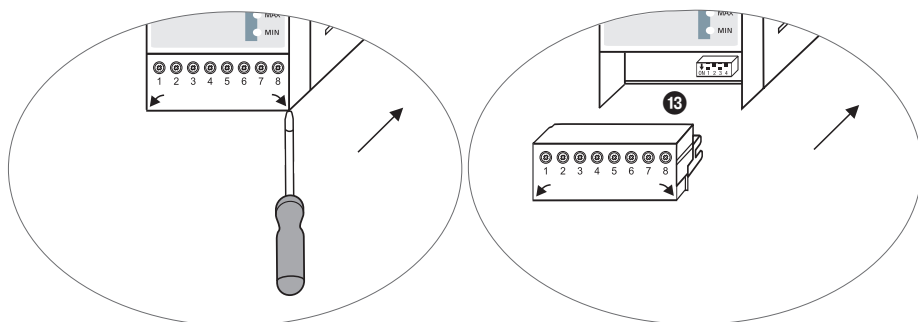

Fig. 9
- Detach the upper and lower terminal strips. **Fig. 9**